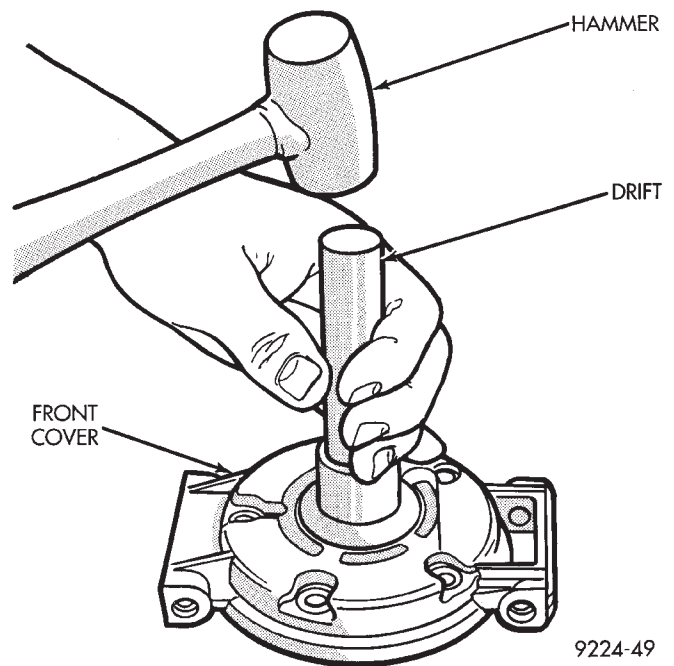

Fig. 7 Removing Seal
(9) Place compressor front cover on a flat surface with neck of cover facing up. Using a brass drift, press out seal assembly (Fig. 7).